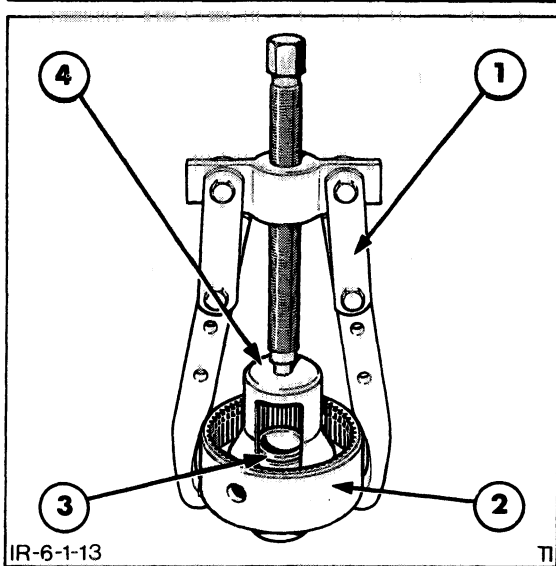

FIGURE 6-14
3. Using puller, tool No. 1003 or FNH09516 and compressor, tool No. FT4101 or FNH01312, or a suitable press, compress the clutch piston return spring and remove the snap ring, Figure 6-14.